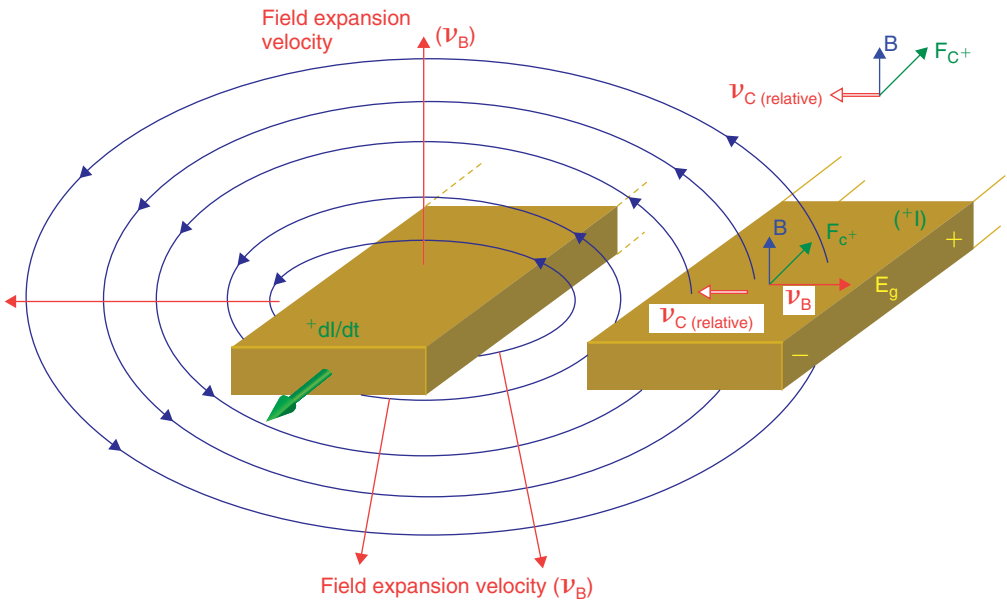
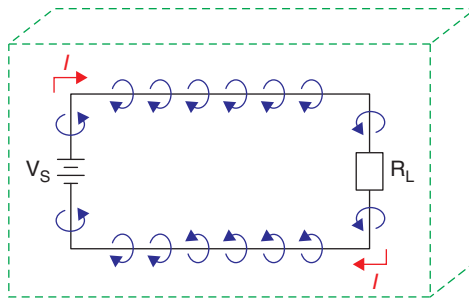

Figure 6-3 Voltage induced into adjacent trace by varying magnetic fields.
Figure 6-4 Loop inductance of a closed circuit.
If a secondary conductor is near a primary conductor, which is carrying current as shown in Fig. 6-3, some of the flux will be felt by the secondary conductor. If the current through the
When the flux that is impinging on the secondary conductor changes with respect to time, as it expands or contracts, we see again from Faraday's Law of Induction, in Eq. (3) that a voltage, E_g , is induced into the secondary conductor. Using the right-hand rule for electric generators the direction of the induced current can be determined. To use the right hand rule point the thumb in the direction of the motion of the conductor (relative to the expanding/shrinking flux— v_C), point the first finger in the direction of the B field, and the middle finger will point in the direction of the force applied to the positive charges (F_{C^+}) and therefore the positive current flow. The resultant voltage and current are shown in Fig. 6-3. Notice that the current in the secondary conductor flows in the direction opposite that of the current in the primary conductor as a result of the induced voltage. This produces a secondary magnetic field which opposes and partially cancels the primary magnetic field (by Lenz's Law).
In Fig. 6-3 only segments of the traces were shown. Of course for current to flow through the circuit a closed path must exist, as shown in Fig. 6-4. Any conductor in the circuit that carries current will produce a magnetic field as indicated by the circular arrows.
If we look at the closed loop circuit shown in Fig. 6-4 with respect to its volume, we can see that if the circuit is physically large and makes a large loop, it will have what is referred to as high loop inductance.
The situations in Figs. 6-4, 6-5, 6-6(a), and 6-6(b) are steady-state DC circuits, but if we apply the concept in Fig. 6-3 and Eq. (3) for time-varying currents then we can see that, if the return trace on a circuit board is in close proximity to the signal trace, then the inductance of